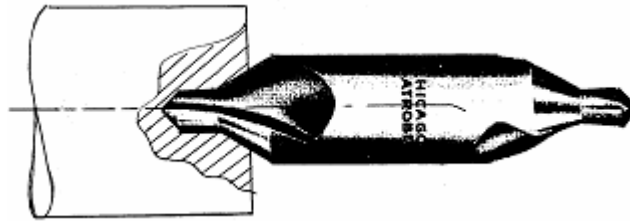

Fig. 4.2.11 Centre Drill
- △ Centre drills (Fig. 4.2.11) : for small axial hole with 60° taper end to accommodate lathe centre for support